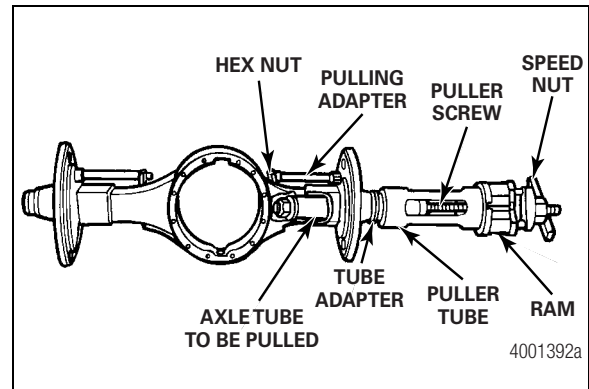

Figure 3.22
4. Install the pulling adapter into each end of the axle tube. Figure 3.22.
5. Place the tube adapter into the hub side of the axle tube. Figure 3.22.
6. Install the puller tube against the tube adapter. Figure 3.22.
7. Connect the hydraulic ram to the puller tube. Install the speed nut onto the hydraulic ram. Figure 3.22.
8. Connect the hydraulic ram to the hydraulic pump. Apply pressure and remove the axle tube from the housing. Figure 3.22.